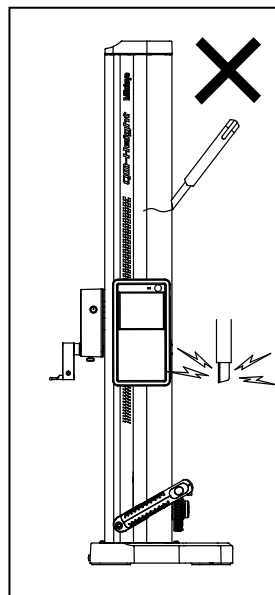

Fig. 3
- Absolutely do not apply an external voltage to the QM-Height with, for example, an electric engraver. Failure to observe this may result in troubles. (Fig.3)